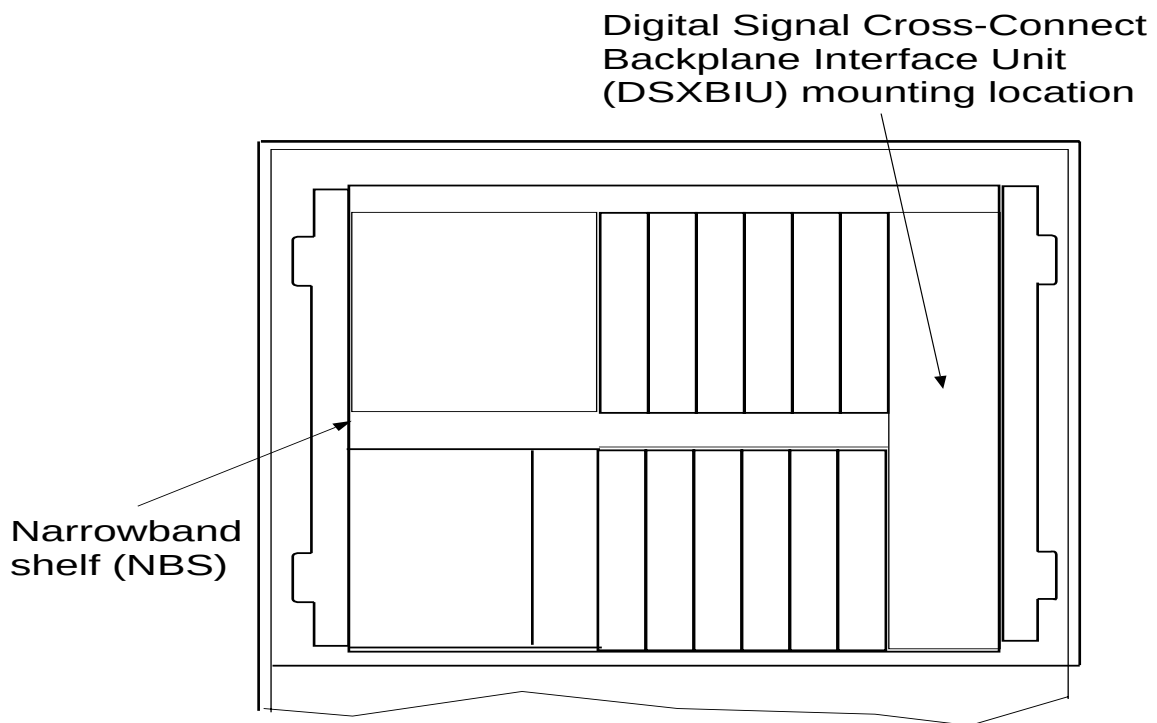

Figure 1 – Front View of Narrowband Shelf
2. Locate the mounting location for the DSXBIU on the NBS (Figure 1).